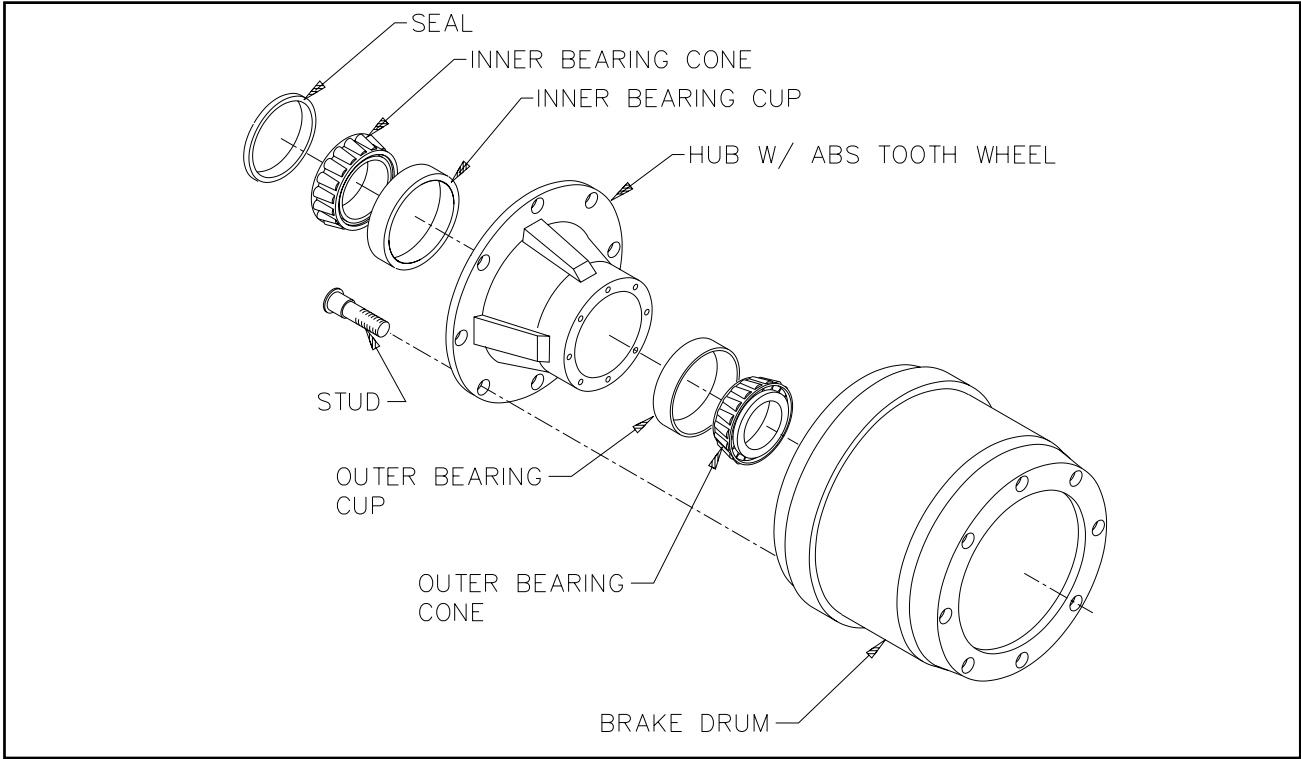
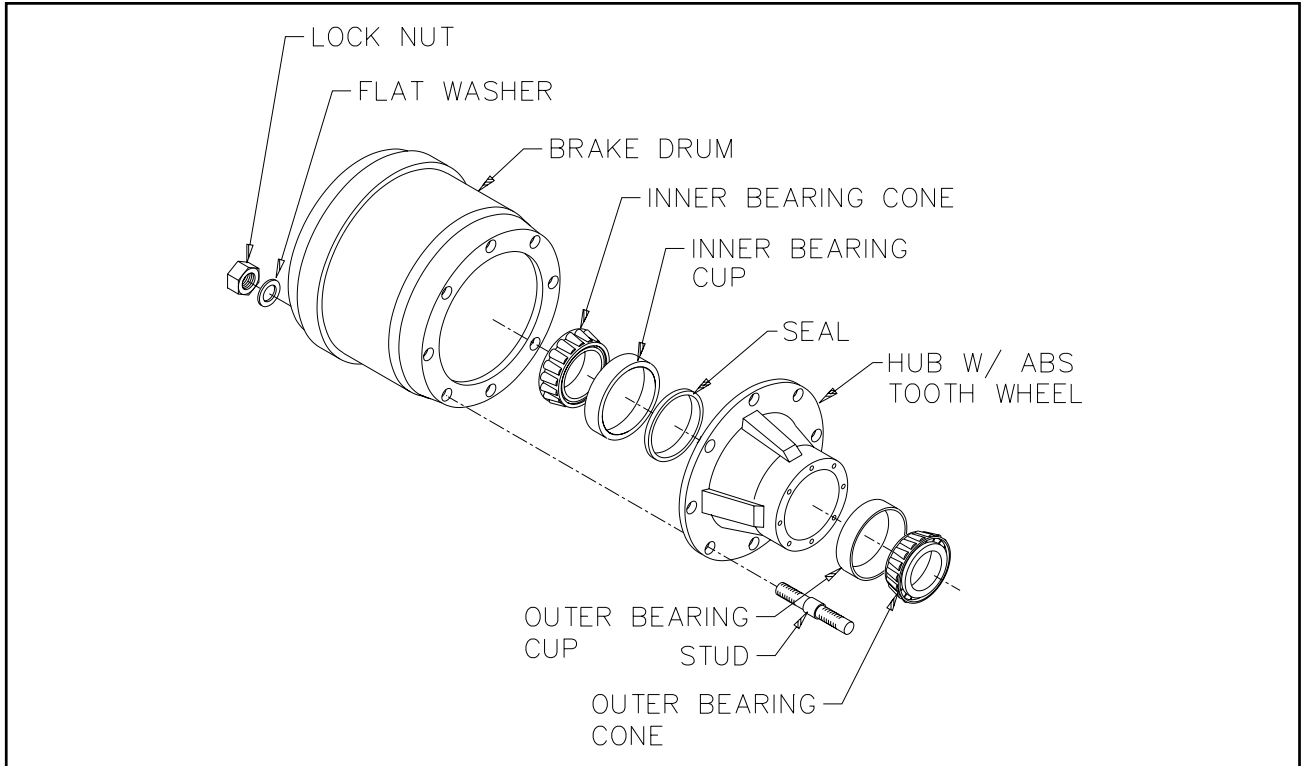

Figure 4-14 Outboard Mount Hub and Drum
Figure 4-15 Inboard Mount Hub and Drum
4-10.4 Replace the hub and drum as follows (See Figure 4-14 and 4-15):
- a. For outboard mount hub and drum remove the brake drum (See Figure 4-14). It may be necessary to release the slack adjuster. For inboard mount, (See Figure 4-15) remove drum after hub.
- r. For Outboard Mounted Brake Drum (See Figure 4-14) place the drum over the hub and brake shoes being careful not to damage the threads on the studs. Make sure the drum seats flat against the hub flange and mates properly with the hub pilot. There should be no interference between the brake drum pilot chamfer and the corner radius on the hub. If interference exists, the hub will not be able to function properly.